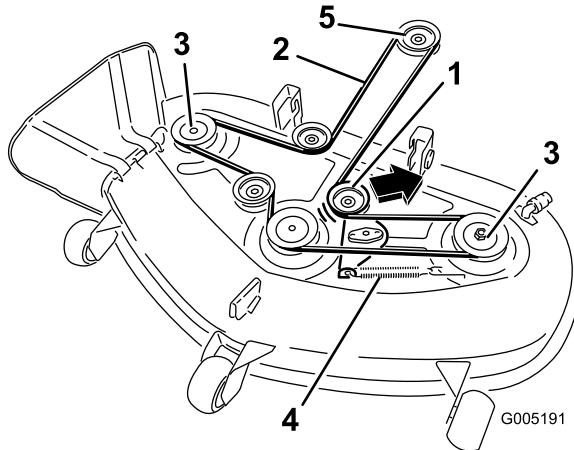

Figure 59
5. Pull the idler pulley in the direction shown in Figure 59 and roll the belt off of the pulleys.
6. Route the new belt around the engine pulley and mower pulleys (Figure 59).
7. Pull the idler pulley in the direction shown in Figure 59 and route the belt onto the idler pulley (Figure 59).